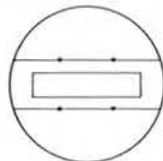

Figure 8
5.06 Cable entry holes in the end plate for the FIBERLIGN® Fiber Safe **must** be drilled at the designated drill point locations which are highlighted in yellow. See Figure 8.